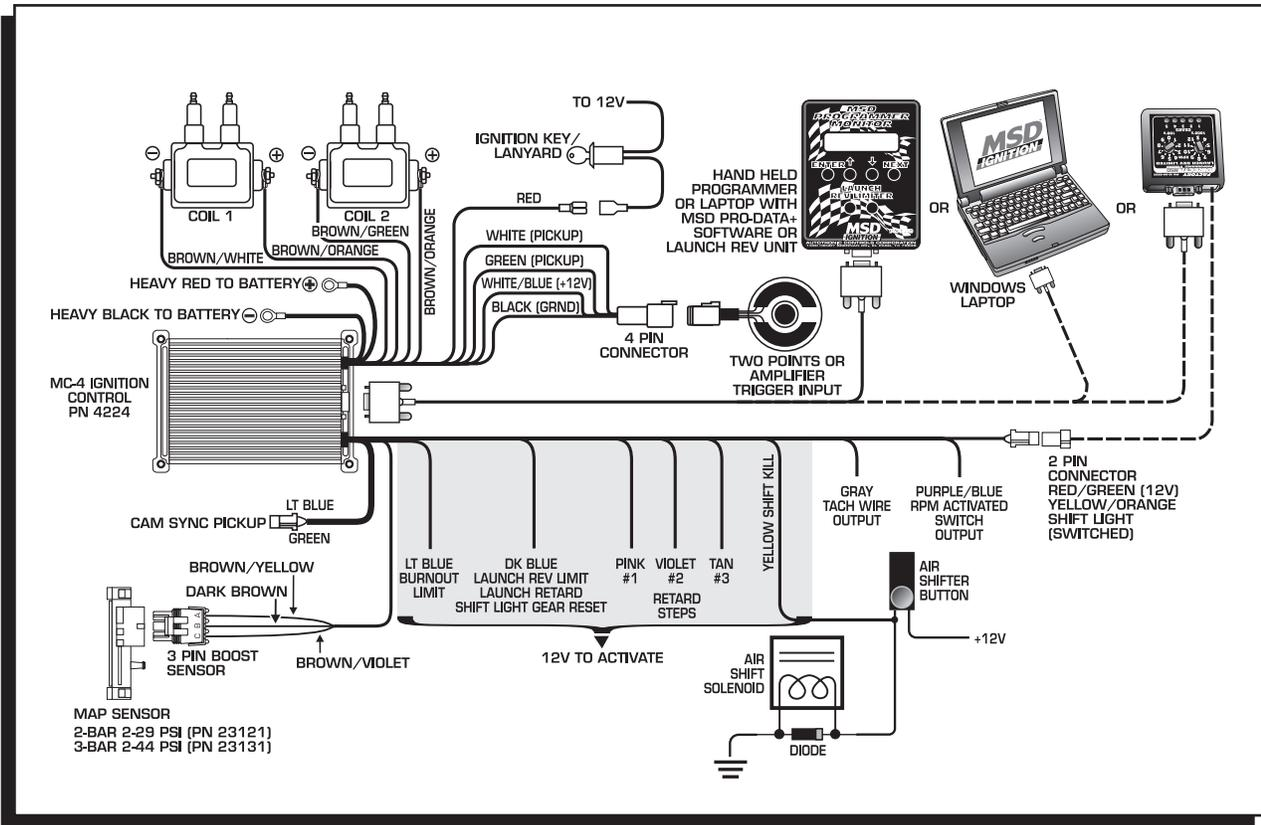

Figure 9 4 - Cylinder Single Plug WSON (Waste Spark ON - Crankshaft Triggered).
- If you are using the Yellow Shift Kill Wire with a Shift Solenoid, you may be getting a double kill when shifting. Attach the supplied Diode to the solenoid as shown in Figure 9.